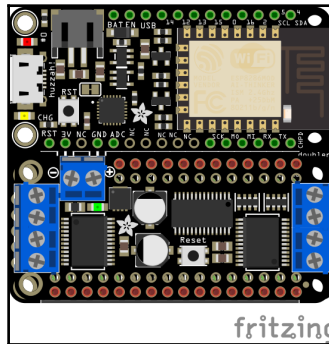

Figure 8.7: Placing the DC Motor FeatherWing on the FeatherWing Doubler
5. Place the Adafruit Stepper and DC Motor FeatherWing on the FeatherWing Doubler next to the Feather Huzzah ESP8266 (*Figure 8.7*):